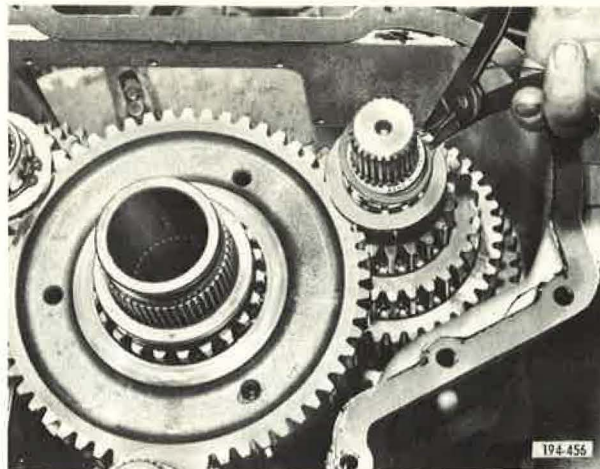

Figure 11. Removing Thrust Washer Retaining Snap Ring
14. Remove front countershaft thrust washer retaining snap ring, then remove thrust washer from countershafts. See Figures 11 and 12.